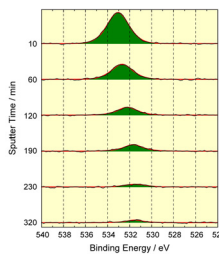

Fig. 9. Plot 3D-Waterfall 0° Plus: Peak fit O 1s
5. Plot 3D-Waterfall 0° Plus: Plot of fitted spectra (see Fig. 9, 15, 21),